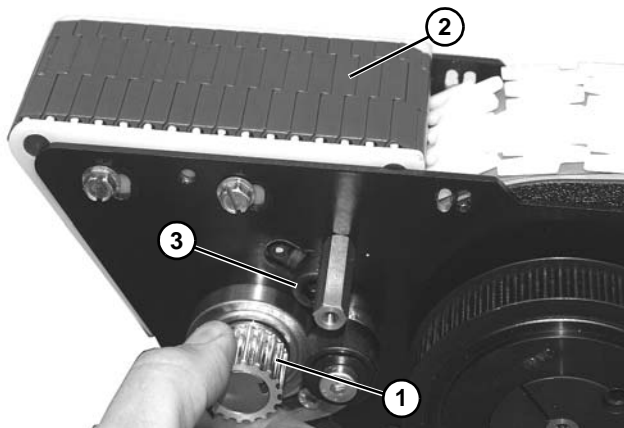

Figure 145
- Rotate drive shaft (Figure 145, item 1) to verify tightness of belt (Figure 145, item 2). Belt should turn freely. Loosen idler socket head screw (Figure 145, item 3) and adjust, if necessary.